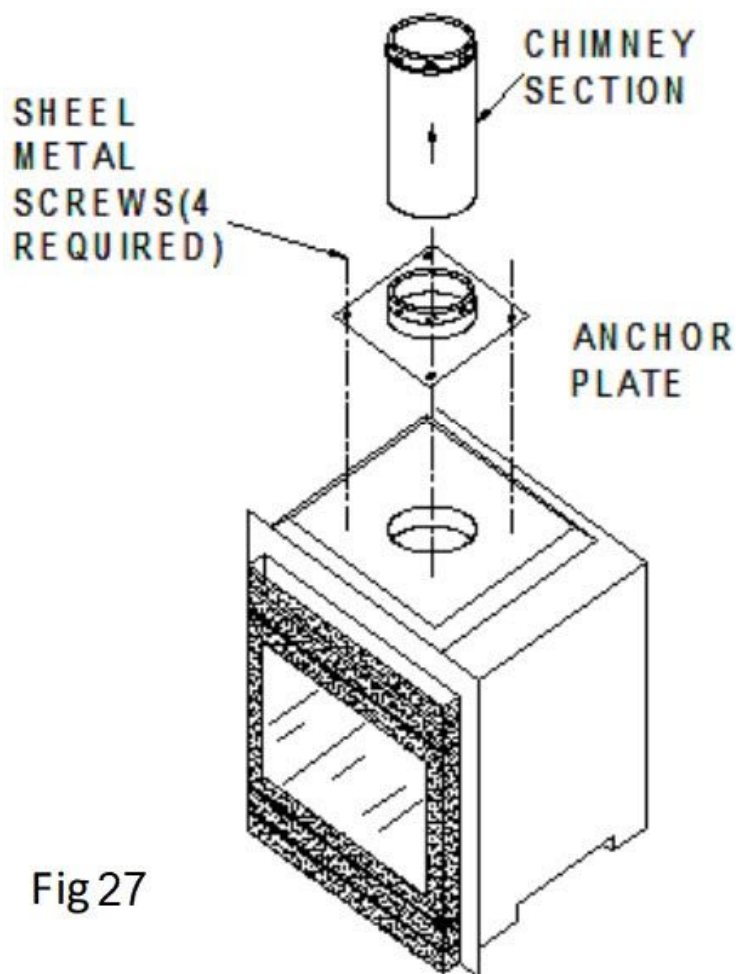

Fig 27
2. **Anchor Plate:** Attach an Anchor Plate to the fireplace top with (4) $\frac{5}{8}$ " sheet metal screws (Fig 27). Check with the appliance manufacturer about the use of high temperature sealants.